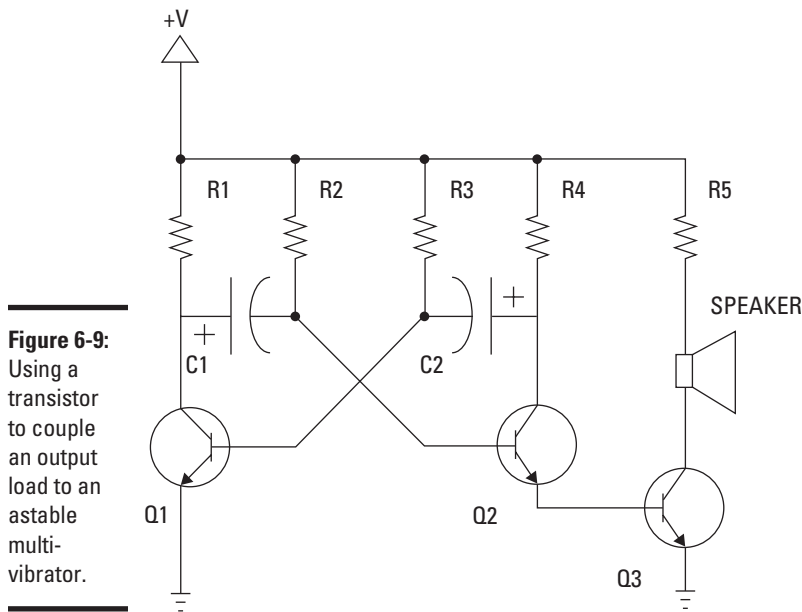

Figure 6-9: Using a transistor to couple an output load to an astable multivibrator.
- ◆ Alternatively, you can use a third transistor to couple the multivibrator with an output load, as shown in Figure 6-9. Just connect the emitter of one of the multivibrator transistors to the base of the third transistor and connect the load to the collector, as shown in the figure.